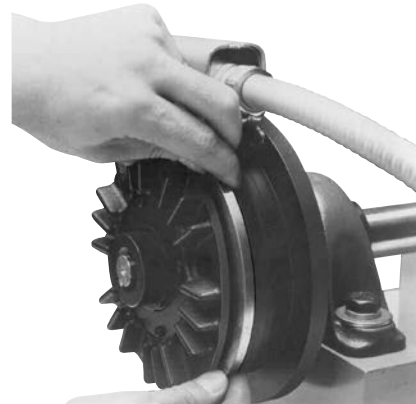

Figure 8
8. Insert the two new armature segments. (See Figure 8)